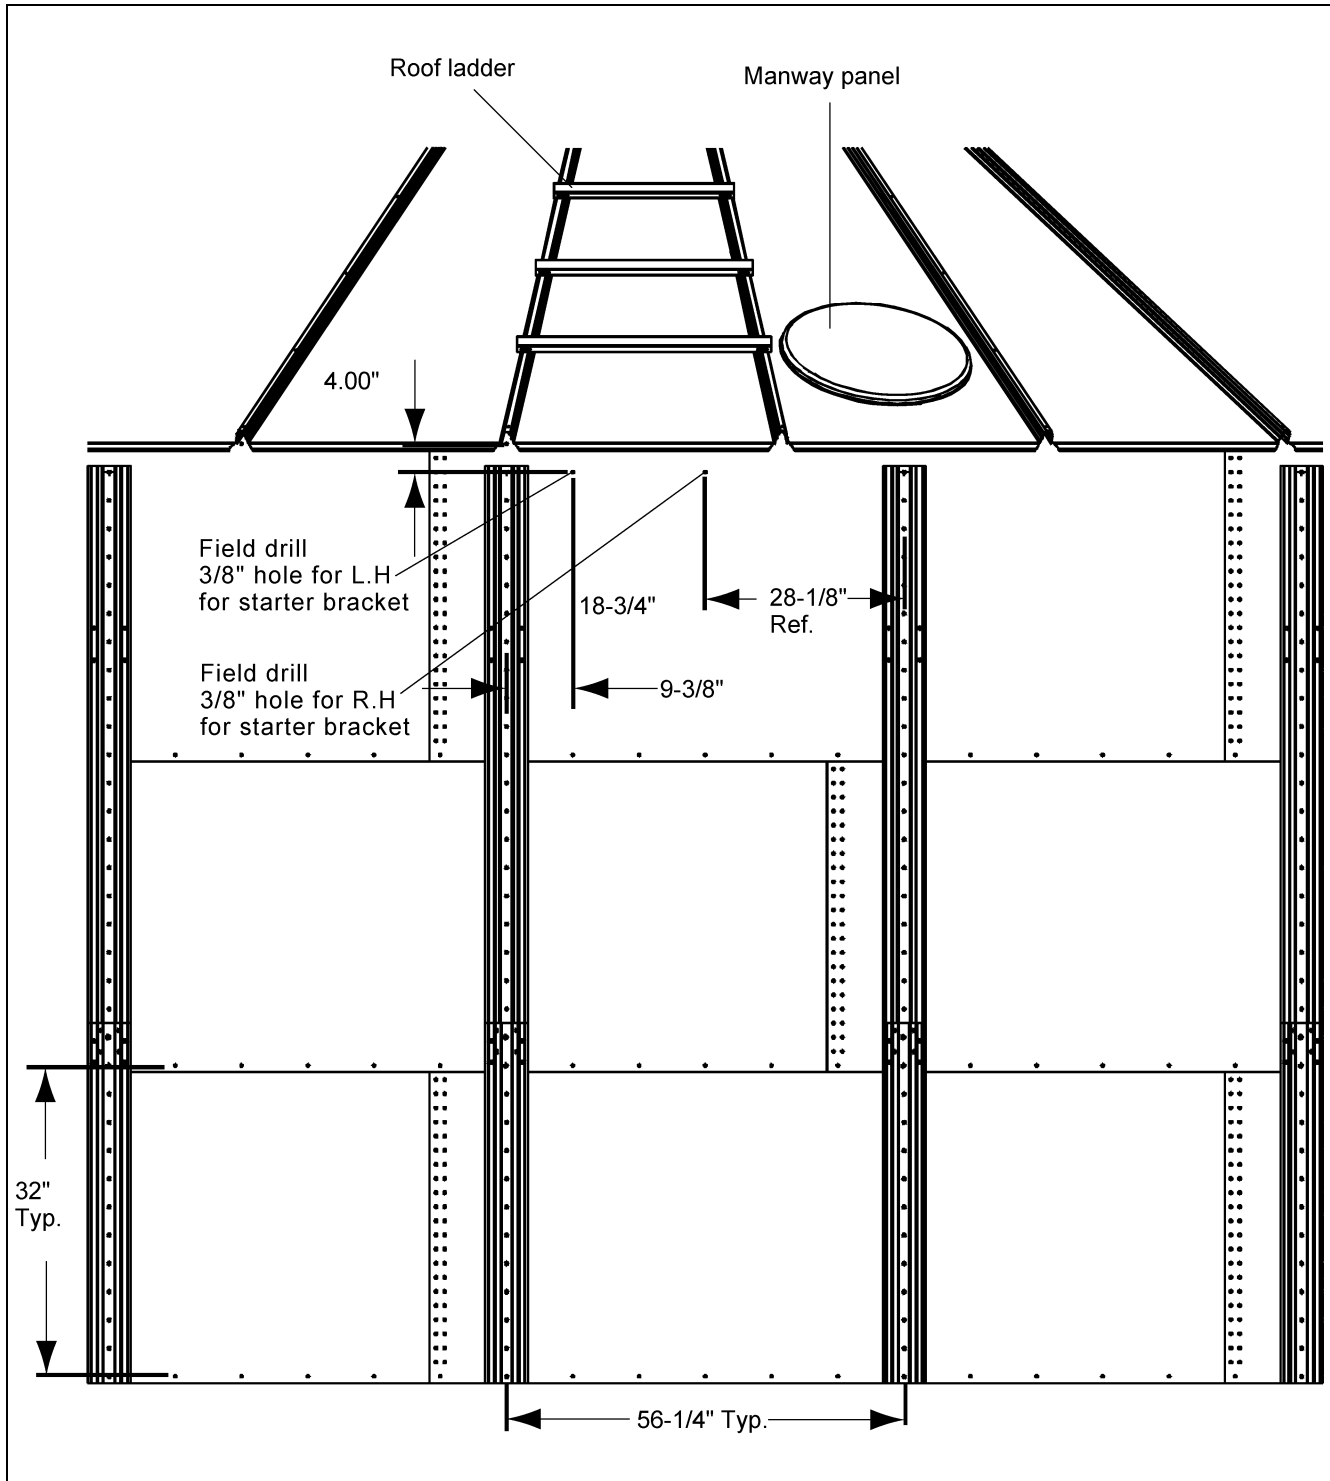

Figure 7B
The starter brackets must be located directly below the roof ladder. Before the starter brackets can be installed, two (2) 3/8" holes must be drilled 4" below and directly in line with the top row of pre-punched horizontal holes. The first hole, for the left-hand starter bracket, must be located 9-3/8" from the center of the stiffener to the center of the hole. The second hole, for the right-hand bracket, must be located 18-3/4" from the center of the first hole. Refer to Figure 7B for the proper location of the two (2) 3/8" field drilled holes required to install the starter brackets.